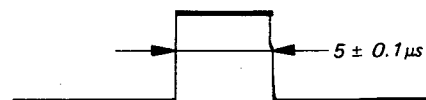

Fig. 5-166.
- (1) Make this monitor receive the crosshatch signal.
- (2) Connect the oscilloscope to TP5 on the DA board. Adjust RV26 on the DA board so that the H. SYNC pulse width becomes 5μs. (See Fig. 5-166.)